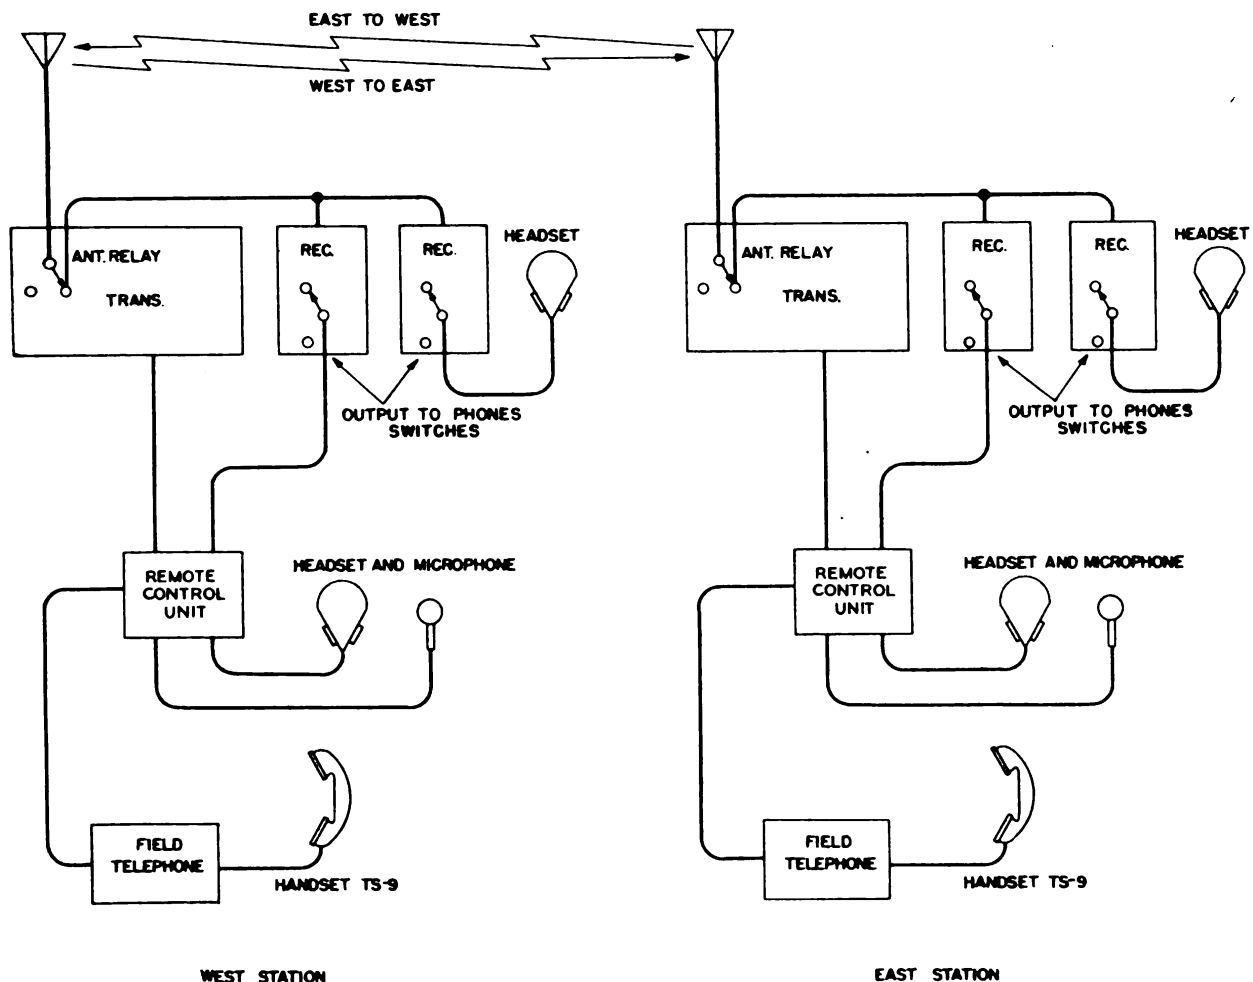

Fig. 23. Radio Set SCR-608-A: System Block Diagram
The radio set may be used in either of two communications systems: (1) radio communication only, or (2) radio-plus-wire telephone communication. In the first instance the radio equipment needs no auxiliary apparatus other than Microphone T-17, T-30, or T-33 and Headset HS-30-(*), HS-18, or HS-23. In the second instance Remote Control Unit RM-29-D is used to connect a remotely located field Telephone EE-8-(*), to the radio equipment. Figure 23 shows a system block diagram.